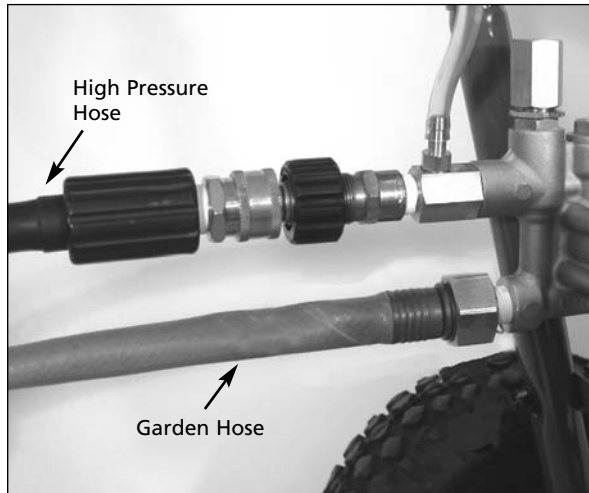

Figure 5 - Connect high pressure hose to pump
4. Connect the high pressure hose to the pump outlet (See Figure 5).